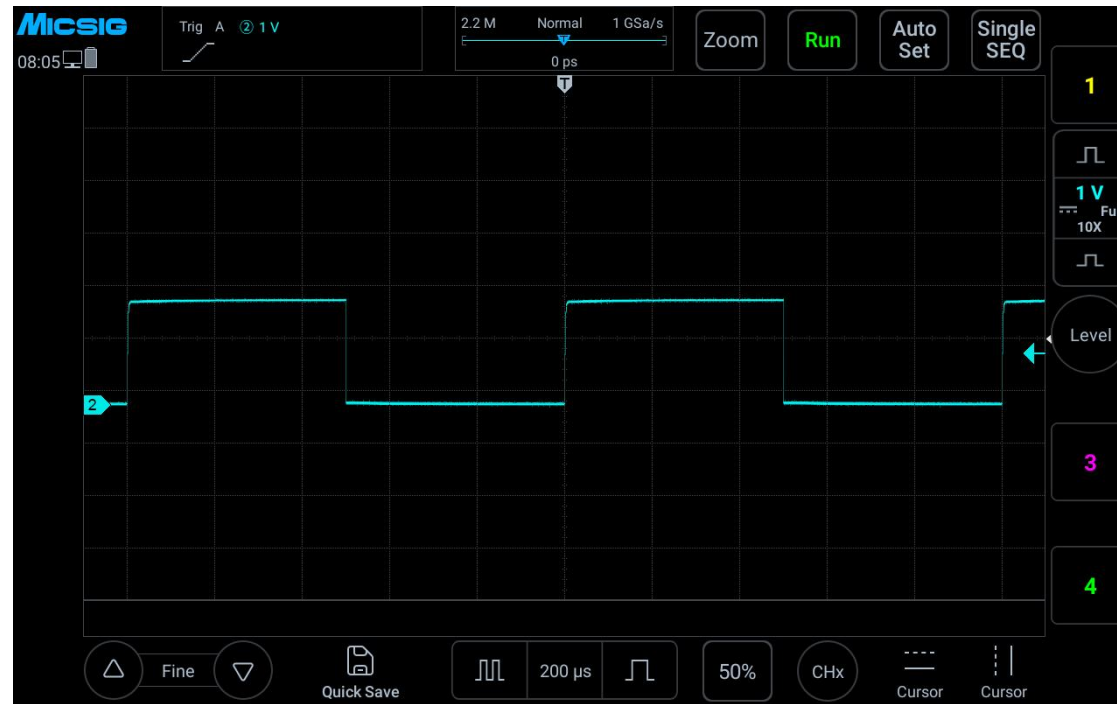

Figure 2-14 Probe Compensation
- 5) Tap  button or manually adjust the waveform vertical sensitivity and horizontal time base. Observe the waveform. As shown in Figure 2-14.